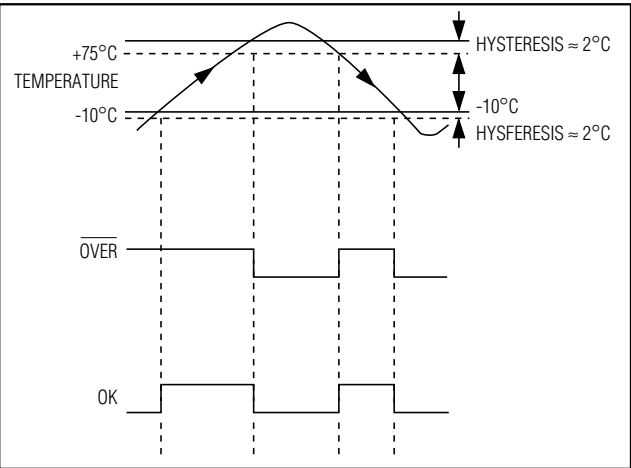

Figure 2. Temperature Response—MAX6507A04B Outputs with 2°C Hysteresis
The MAX6507/MAX6508 have two factory-programmed threshold temperatures (T_{OVER} and T_{TUNDER}) and two outputs (OK and OVER). One output (OK) asserts when the temperature is between T_{OVER} and T_{TUNDER} . The other output (OVER) asserts when the temperature is above T_{OVER} . Table 4 shows the hex codes to determine the part numbers associated with specific values of T_{OVER} and T_{TUNDER} . The first hex code indicates the lower trip point (T_{TUNDER}) and the second indicates the higher trip point (T_{OVER}). For example, a part with $T_{\text{TUNDER}} = -10^{\circ}\text{C}$ and $T_{\text{OVER}} = +75^{\circ}\text{C}$ will have the part number MAX6508UTA04B (Table 4 and Figure 2). MAX6507 has open-drain outputs; MAX6508 has push-pull outputs.